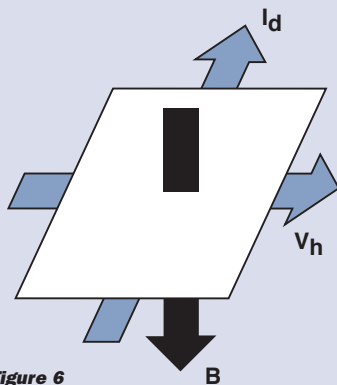

Figure 6
When a thin semiconductor (Figure 6) is placed at right angles to a magnetic field (B), and a current ( $I_d$ ) is applied to it, a voltage ( $V_h$ ) is developed across the semiconductor. This voltage is known as the Hall voltage, named after the US scientist Edwin Hall who first reported the phenomenon.